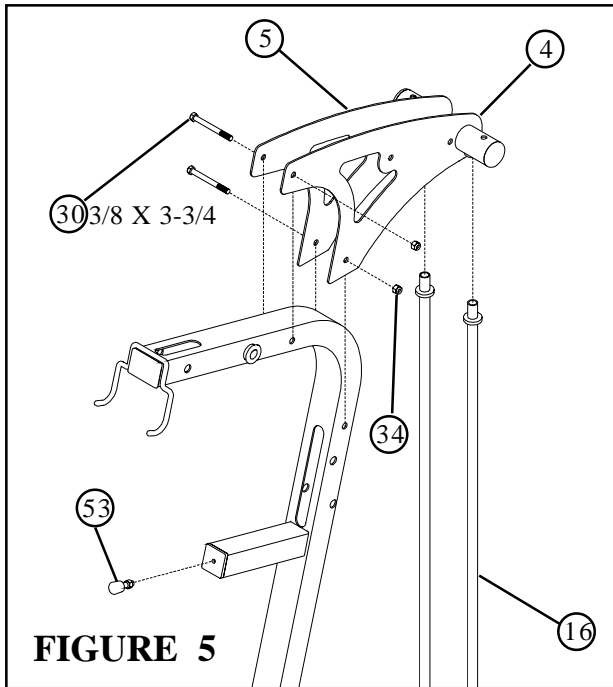

FIGURE 5
- Carefully slide the RIGHT (5) and LEFT (4) BOOM PLATES onto the GUIDE RODS (16) as shown in FIGURE 5 and loosely assembly BOOM PLATES (5), (4) to frame (1) using two 3/8 x 3-3/4" BOLTS (30) and two 3/8" LOCK NUT (34) [CAUTION MUST BE TAKEN NOT TO PULL GUIDE RODS (16) OUT OF BASE (2)]
- Screw ADJUSTABLE GLIDE (53) approximately 1/2" into FRAME (1) and tighten jam nut securely as shown